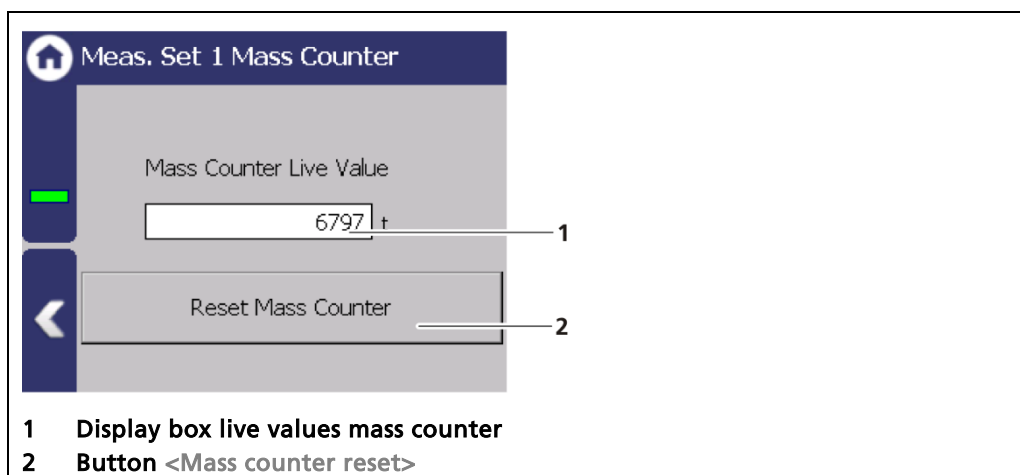

Fig. 102 Measuring set submenu "Mass counter" Example: Measuring Set 1
In the submenu mass counter of the individual measuring set, the live value of the mass counter is displayed (Fig. 102, item 1). With the button <Reset Mass counter> (Fig. 102, item 2) the counter can be reset to 0.